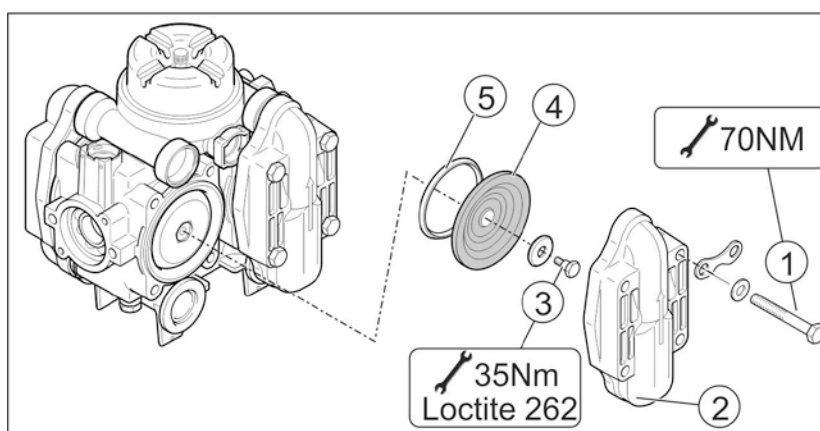

Fig. 193
2. Loosen bolts (Fig. 193/1).
3. Remove the valve cover (Fig. 193/2).
4. Check the piston diaphragm (Fig. 193/4) and the wedge ring (Fig. 193/5).
1. Loosen bolt (Fig. 193/3) and remove the piston diaphragm (Fig. 193/4) together with the holding washer from the piston.